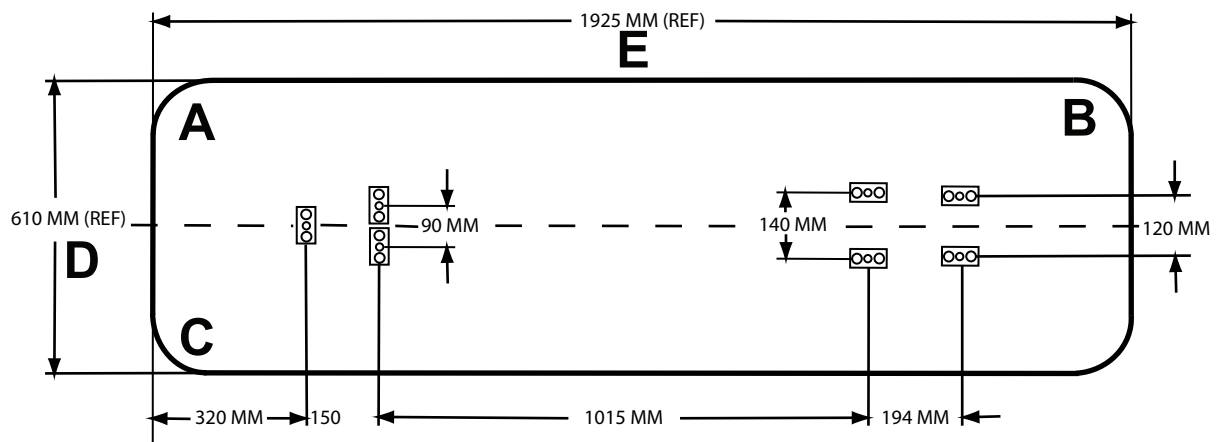

Figure 2 – Floor plate installation locations
2. Using the dimensions shown in Figure 2, locate and drill the points where the floor plates will attach.